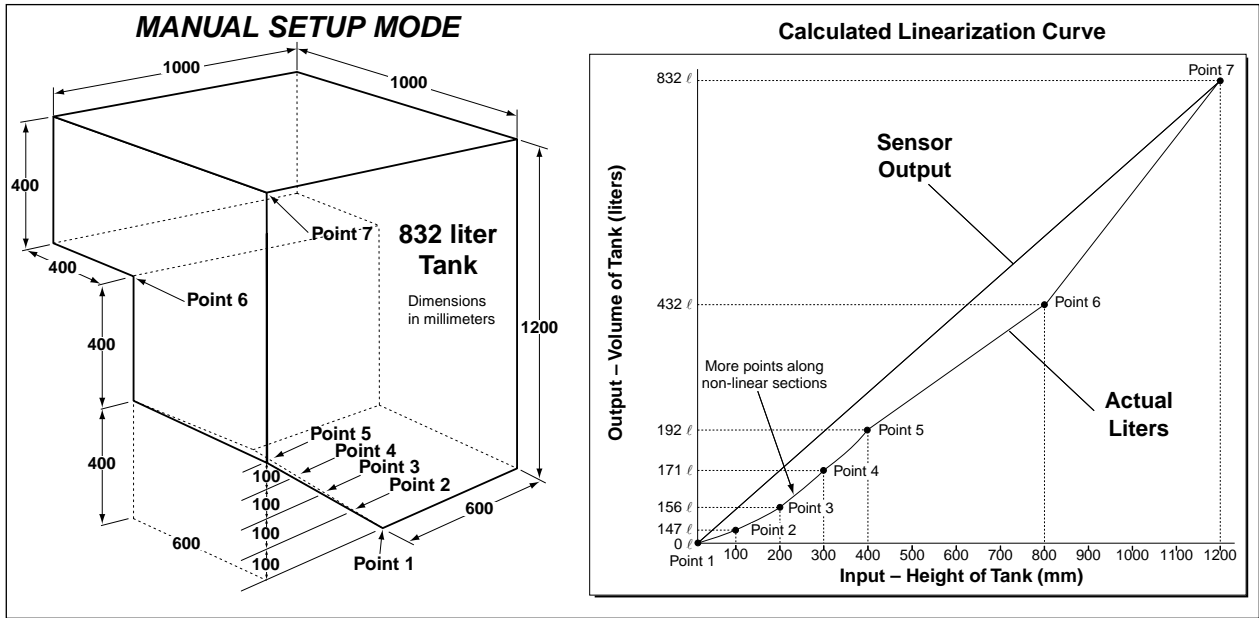

Figure 8 – Linearization of the Fuel Tank using the Manual Setup Mode
For the greatest accuracy, calculate the output curve of the level sensor using the dimensions of the tank (See Figure 8). This provides the volume of liquid in the tank at the critical points where the tank changes shape. The level sensor output curve can then be drawn using the calculated points.
- Select the points required to ensure an accurate measurement of the tank (seven in this case), ensuring that the non-linear areas are sufficiently covered to minimize errors. *See Figure 8.*